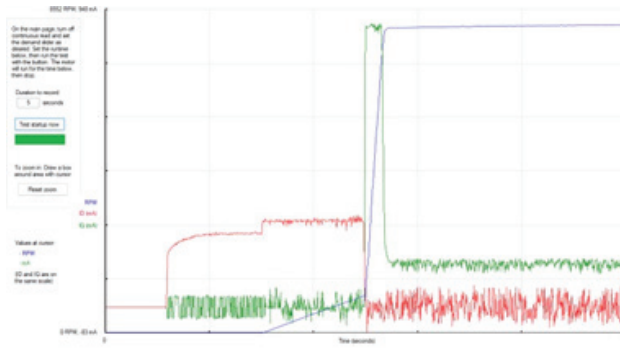

Figure 19: Good Tuning—GUI Plot (left) and Phase Current Plot (right)
- When K_p and K_i are tuned correctly, the align current of Phase A has no ripple, as shown for $K_p = 2$, $K_i = 7$ in Figure 19.